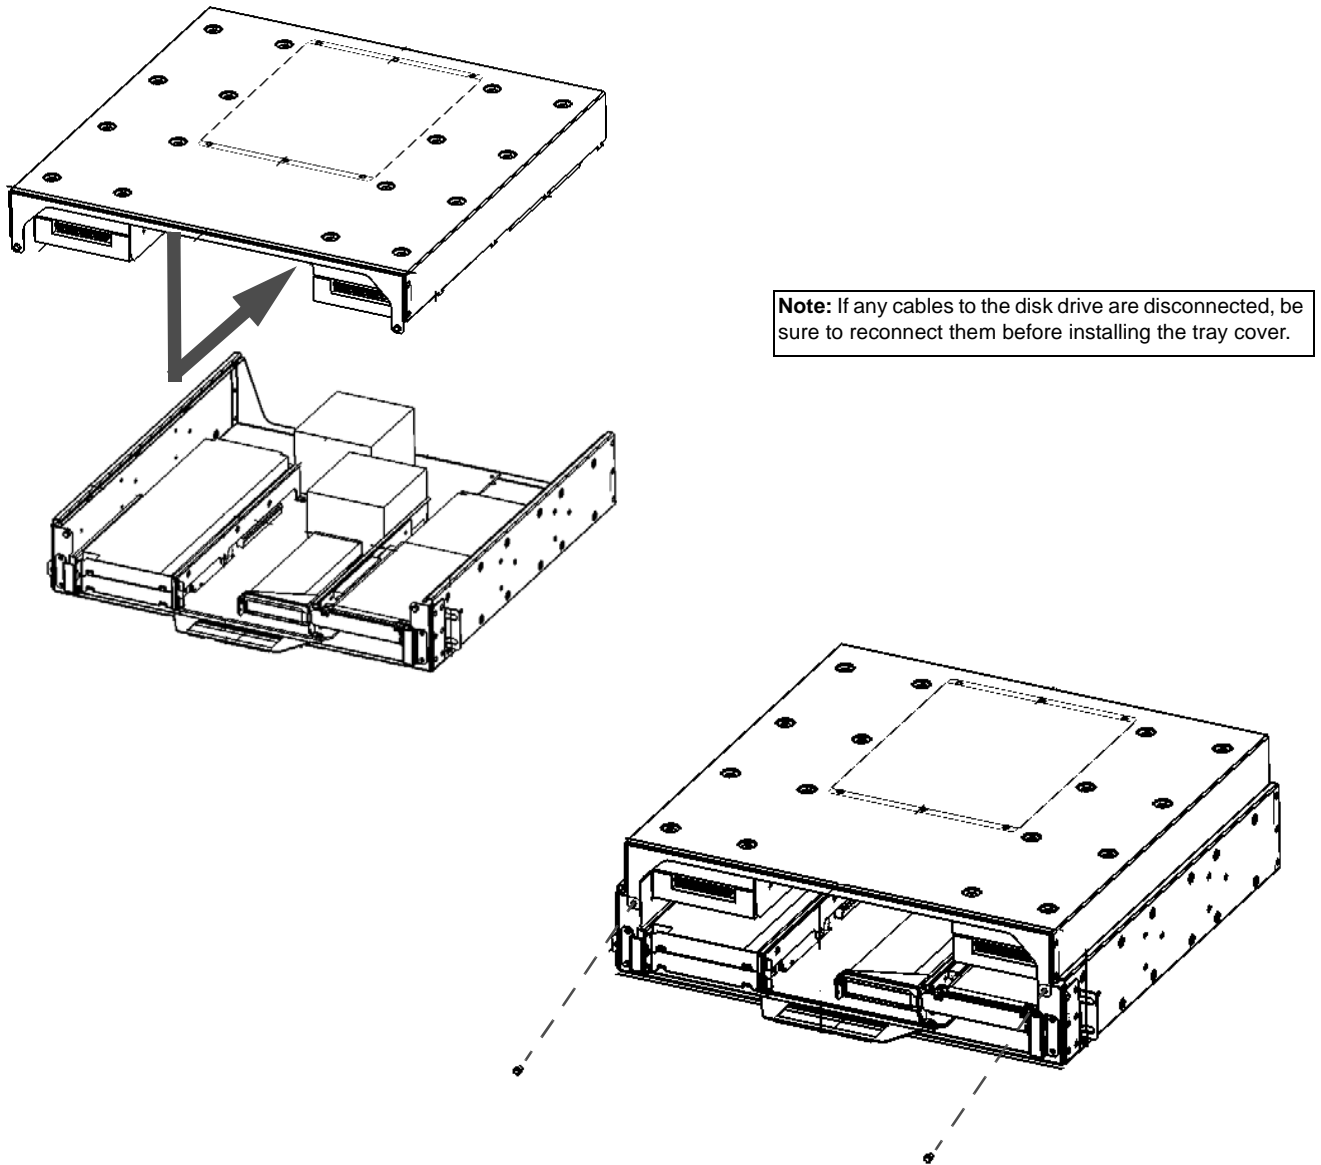

Figure 1-5 Installing the Tray Cover
2. Push the cover downwards and slide it towards the back of the tray; refer to Figure 1-5.
3. Install the two screws that secure the cover to the tray; refer to Figure 1-5.